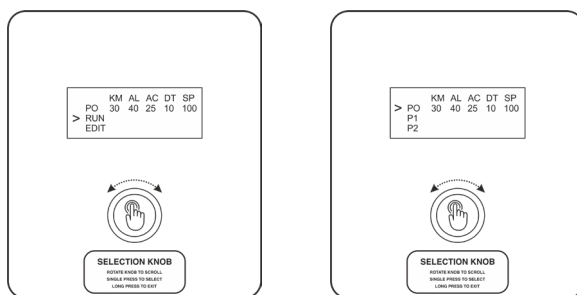

Fig. No. 25.2
- 3. **PRESET MENU** (Ref. Fig. No. 25.2)